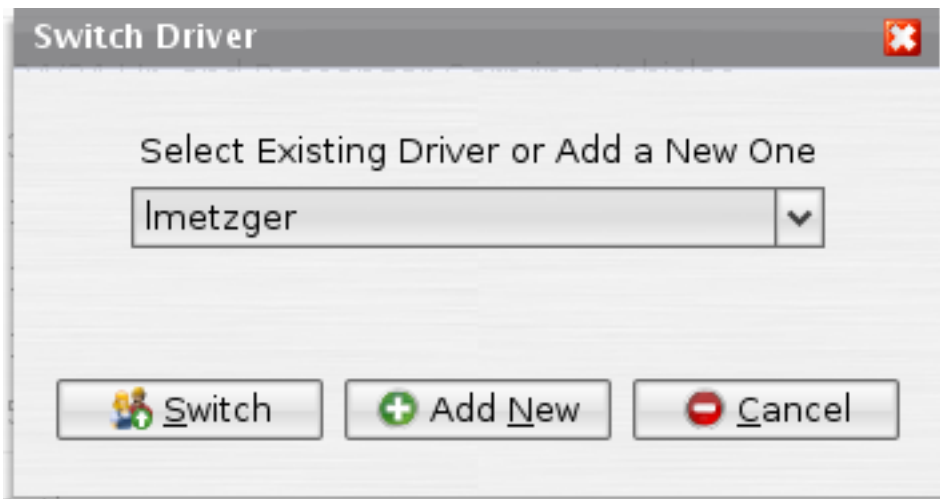

Figure 3.2. Switch Driver Dialog
1. Click the File → Switch Driver menu item, and wait for the Figure 3.2, “Switch Driver Dialog”